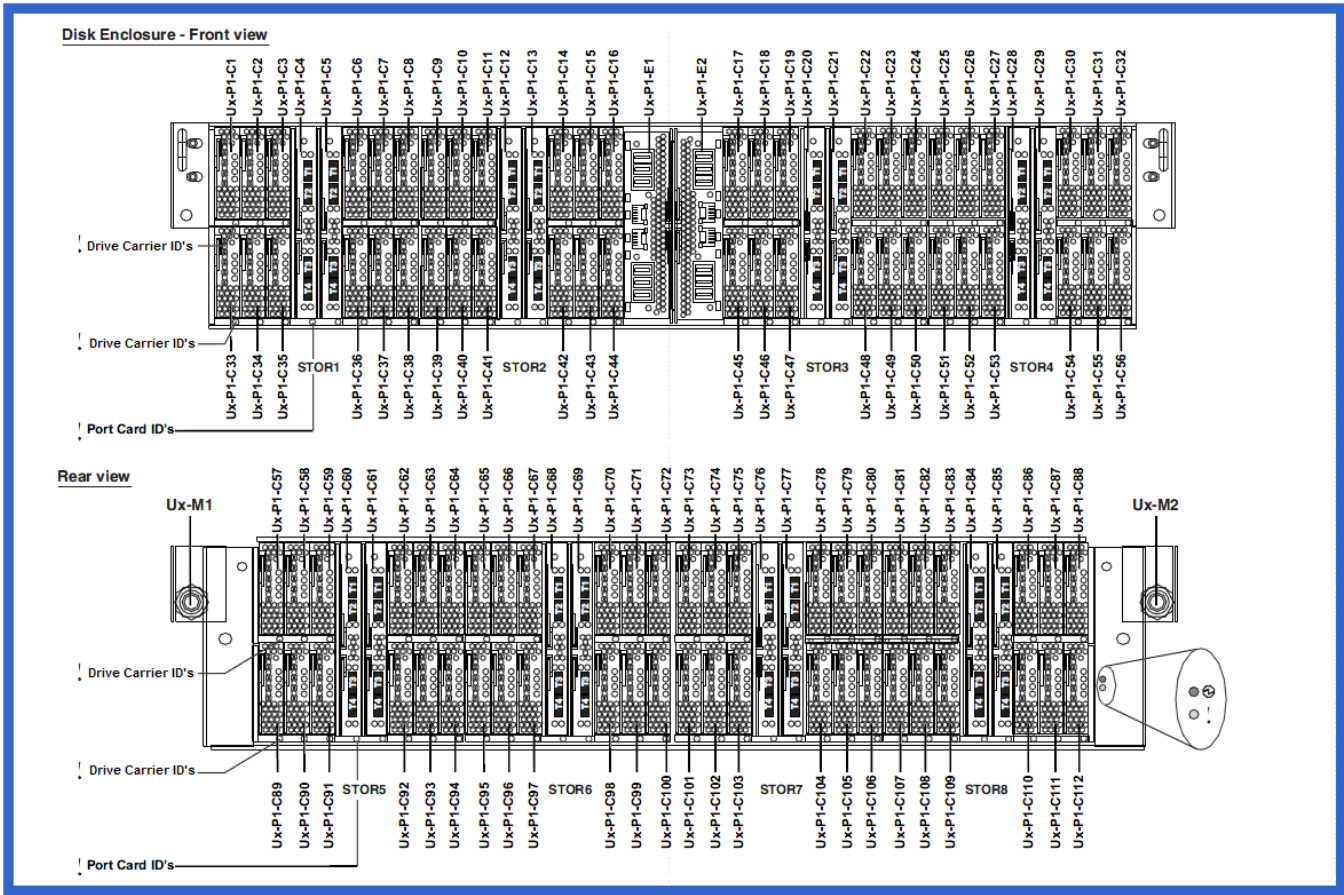
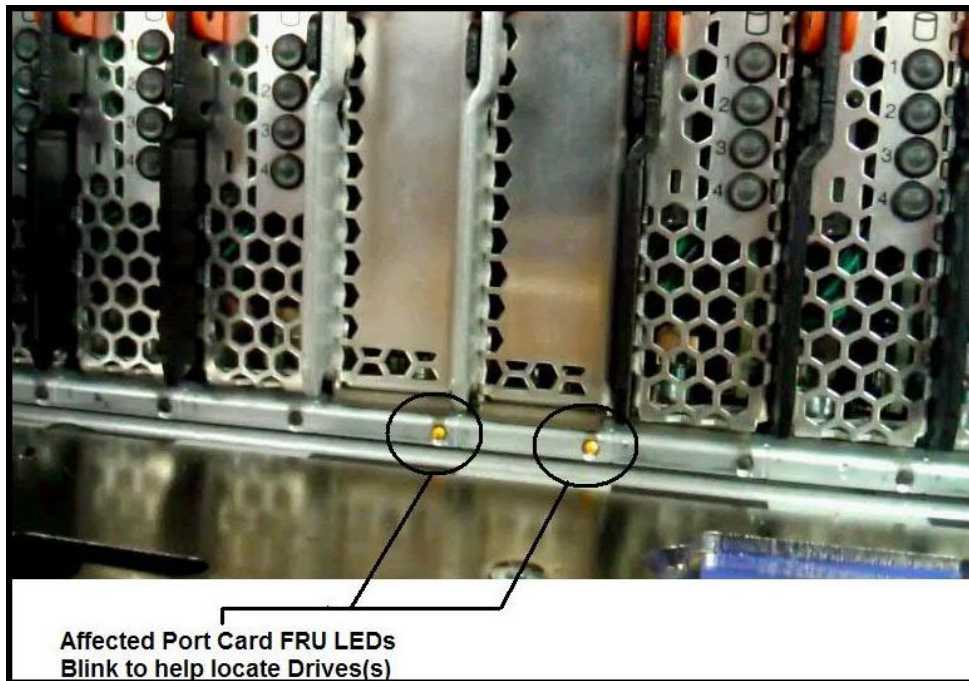
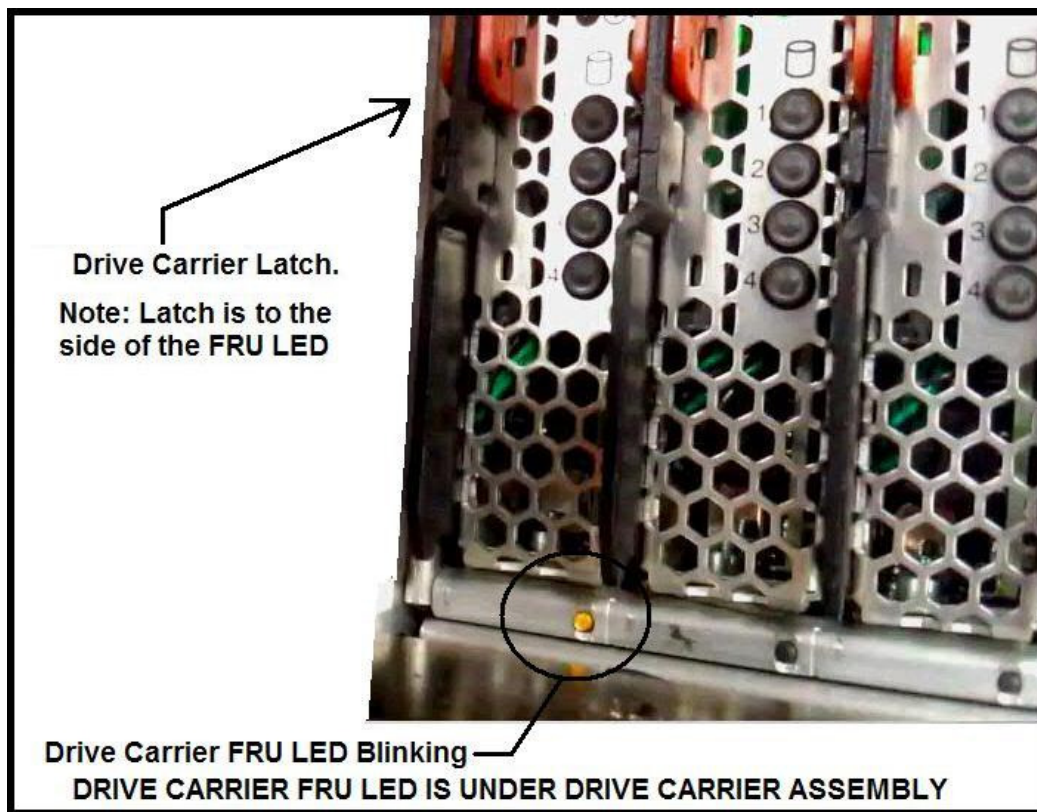

Figure 20 Disk Enclosure LEDs
Figure 21 Port Card Slot Identify LEDs
Figure 22 Drive Carrier Slot Identify LED
- b. Check that the Frame (UEPO) , Enclosure ID, Port Card Slot ID, and amber Drive Carrier Slot ID LEDs are blinking (see Figure 20, Figure 21, and Figure 22).
NOTE: The Drive Carrier Slot ID and the Port Card Slot ID LED functions have 2 LEDs on the backplane going into a single light pipe. If the LED is not blinking, do not assume that the LED is broken as it is very unlikely that both are broken (see Figure 21) If this LED is not blinking, it is recommended to stop and contact next level of support.